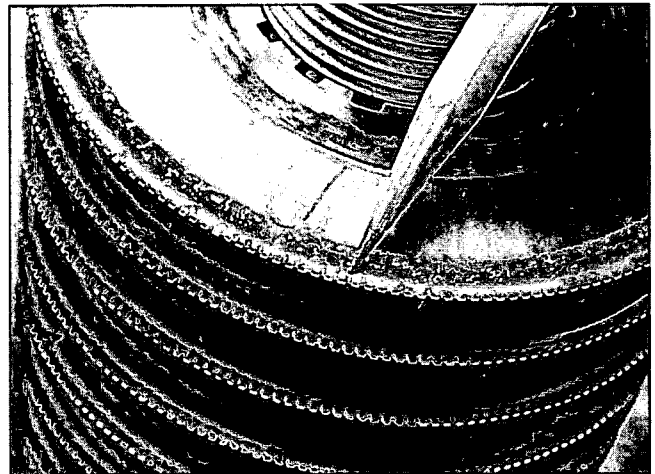

Figure 53 — Make sure serrations face the same direction.
2. **Alternate knives and spacers** on the spindle, beginning with a knife. Serrations on knives must face the same direction (Figure 53).